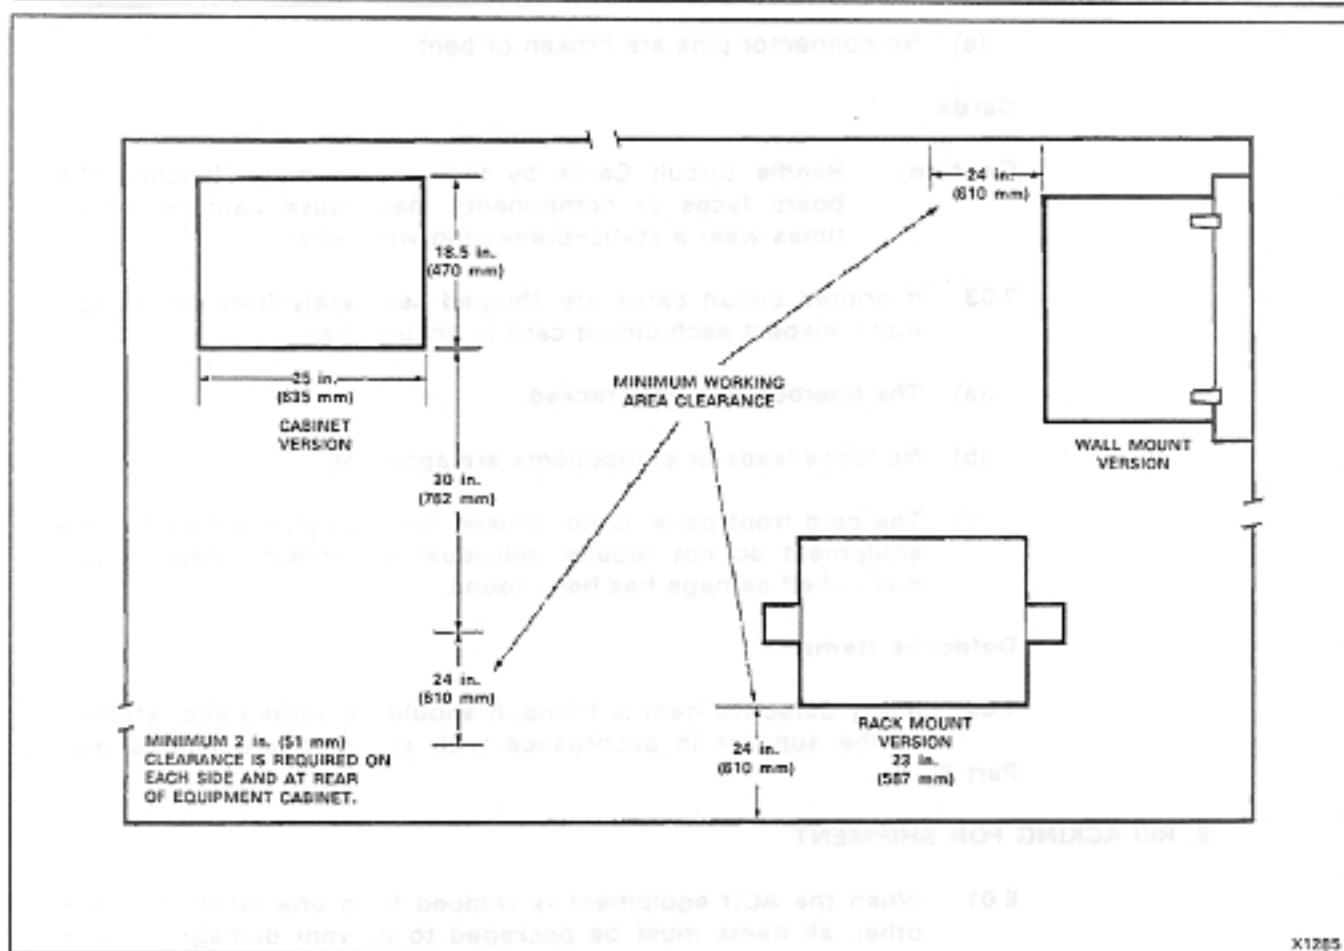

Figure 9-1 SX-100 Minimum Equipment Cabinet Floor Space Requirements
9.02 The minimum floor space for installation and subsequent maintenance of the SX-100 and SX-200 ACD's is shown in Figures 9-1 and 9-2 respectively.